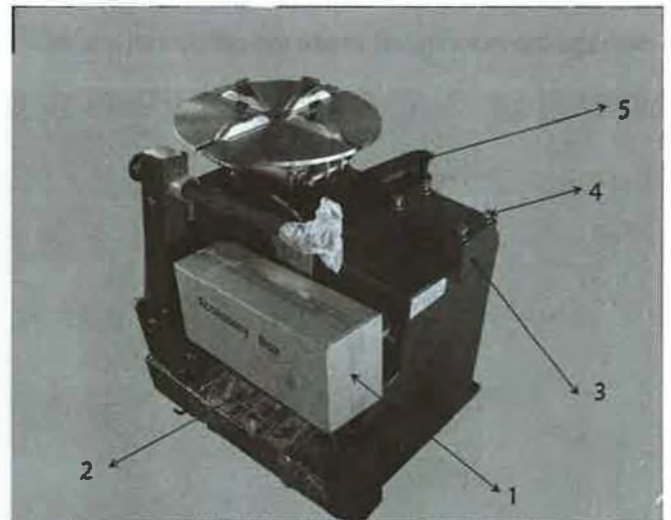

Fig 4-1
As shown in Fig 4-1, unpack the package box and take out the accessories (1) bead breaker arm (5) and column assembly (2) and fix the body as Fig4. Unscrew the hex screw (4) on the body and elastic washer and flat washer.
4.2.6 Position the column assembly on the body with the warning stick facing toward. Retighten the bolt, flat washer and elastic washer removed shown in Fig 4-1 evenly. The tighten torque is 70 N·M